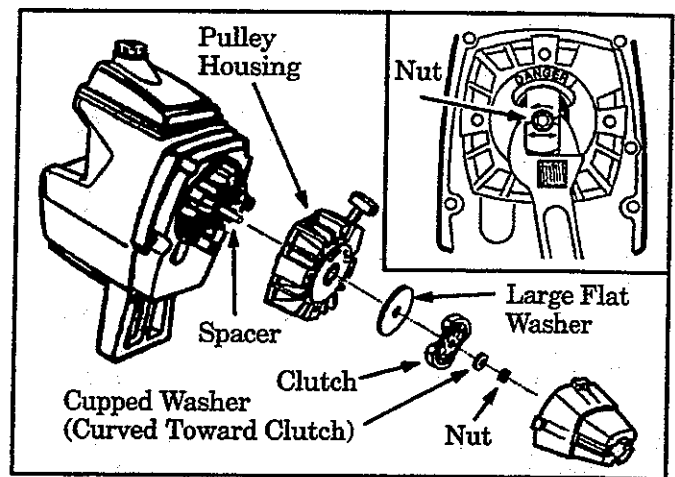

Figure 27
8. Hold the "Flats" of the clutch with an adjustable wrench. Figure 27 (inset). Remove the nut counterclockwise with a wrench.
9. Remove the cupped washer, clutch, and large flat washer as shown in Figure 27.
10. Remove pulley housing from engine. Figure 27.
24. Make sure spacer is in place. See Figure 27 . Reverse steps 1 through 10 to re-assemble.